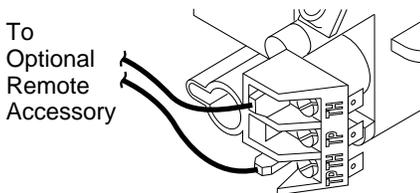

Figure 41 - Control Valve Terminals
6. Connect wires from receiver to TH and TPTH to control valve (see Figure 41).